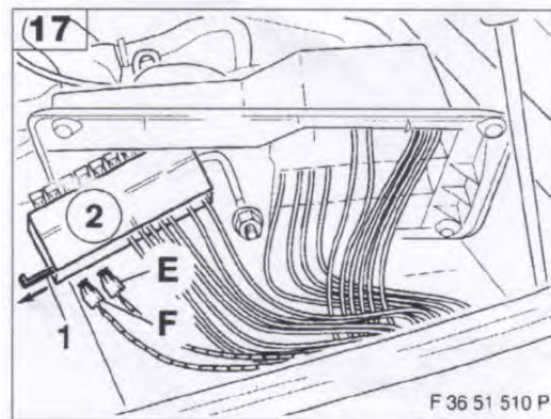

Figure 26 – Fusebox Connection of E and F
- 7.3.1 Route both E and F wires through the firewall and into the fusebox. These will be plugged into location 15 and then a 5A fuse placed into that position (See **Figure 26 – Fusebox Connection of E and F** Figure 26). Ensure they properly reach the location so that once all is back together you have enough slack to pull up and remove the fusebox cover.